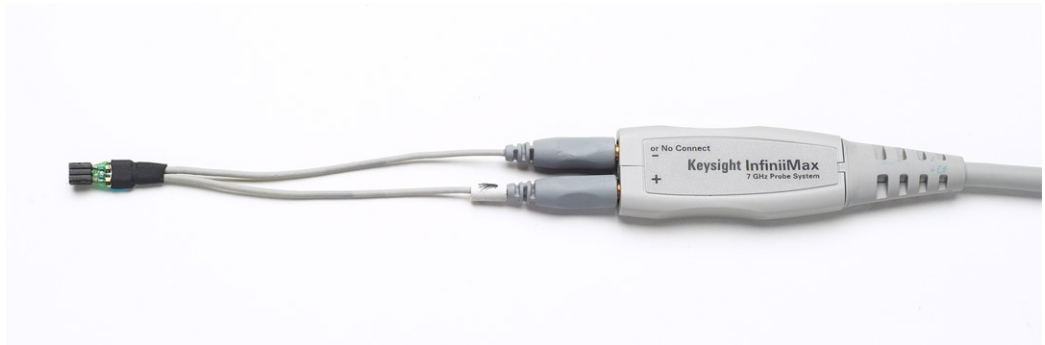

Figure 5 Differential Probe Setup
- b Attach the header adapter to the socketed probe head (Figure 5). This step is only needed if you are using the old test fixtures (E2645-66504, E2645-66505, E2645-66506, E2645-66507, E2645-66508). If you are using the new test fixtures (E2649-66401, E2649-66402, E2649-66403, E2649-66404, E2649-66405, or E2666B), you do not need to use a header adapter and can work with a socketed probe head.